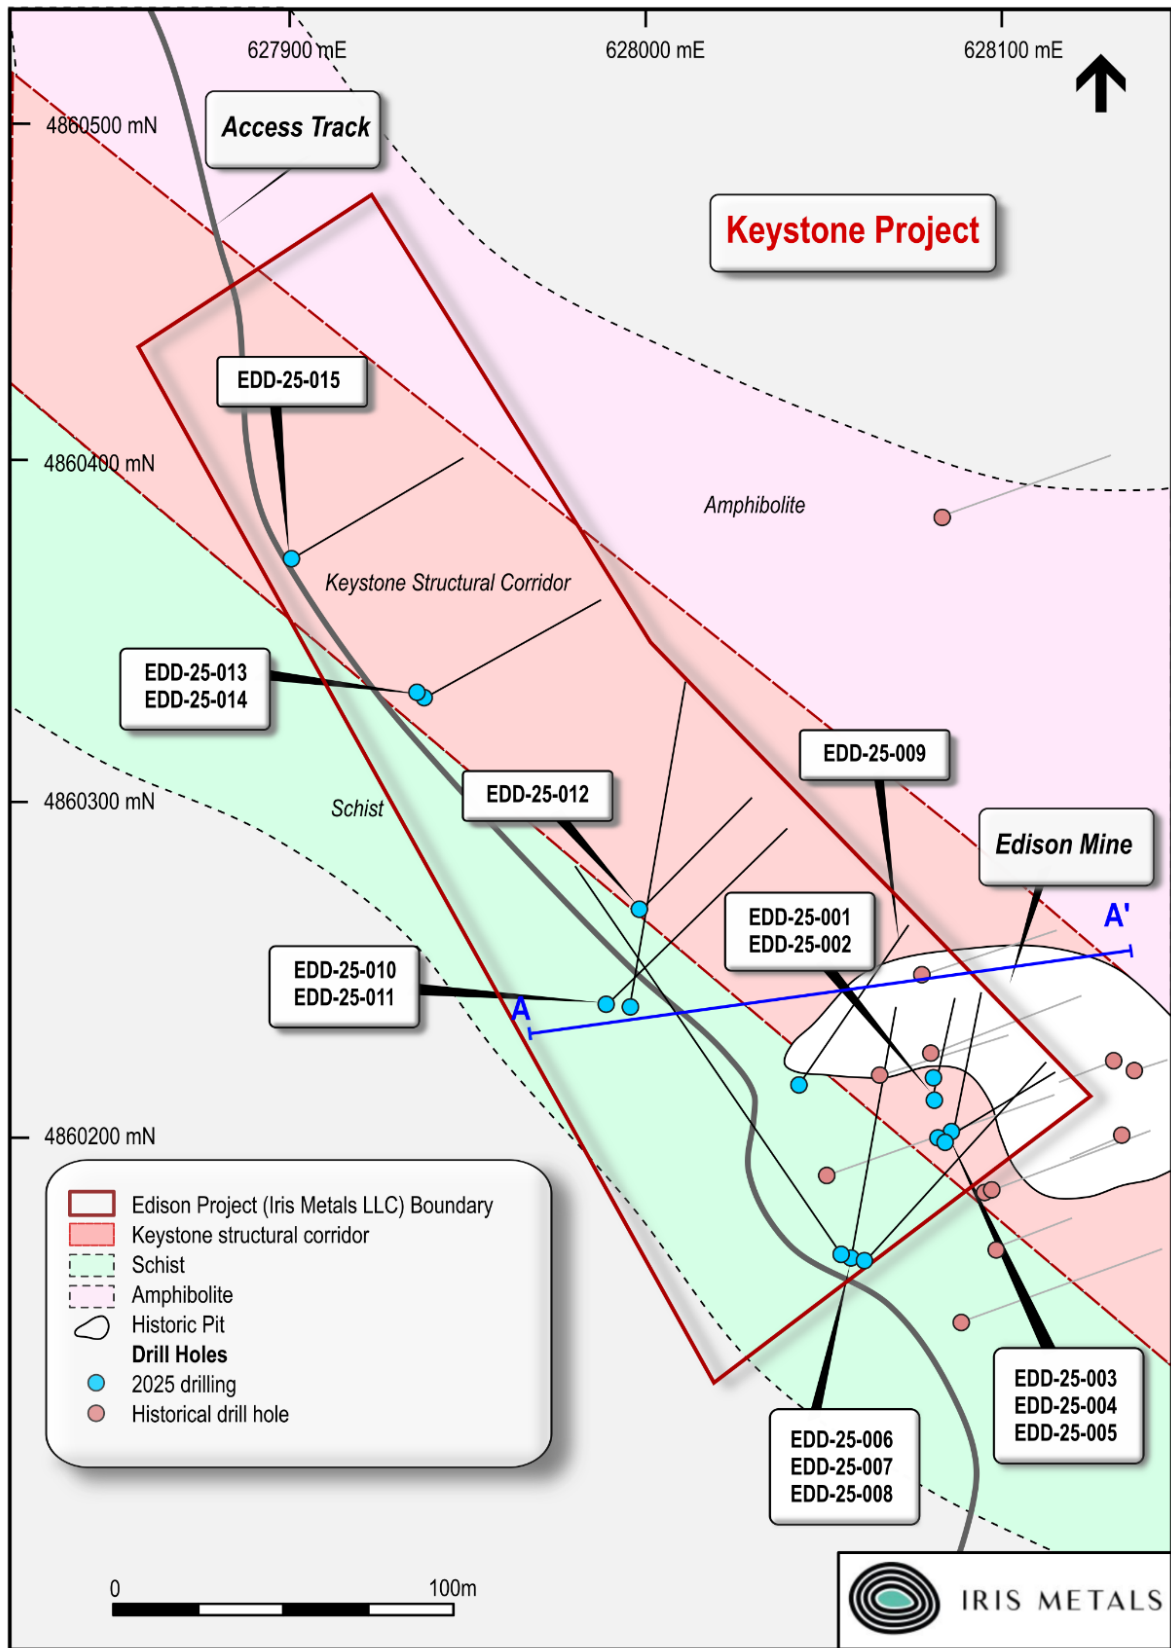

Figure 1: Diamond drill hole (DDH) locations at the Edison Project
- **Figure 1:** Illustrates the location and downhole traces of drill holes at the Edison Project